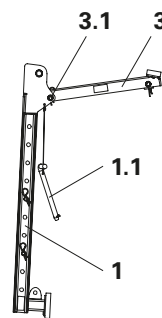
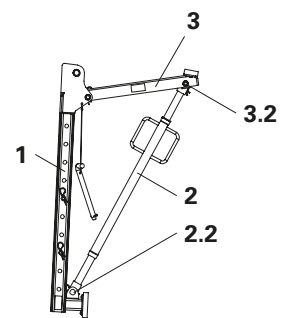
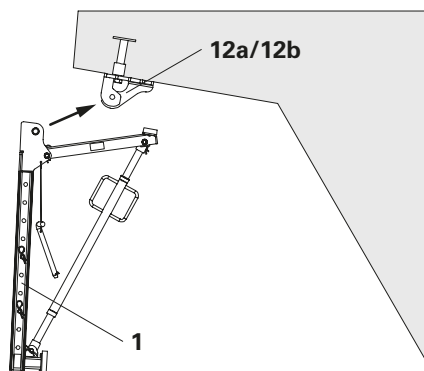
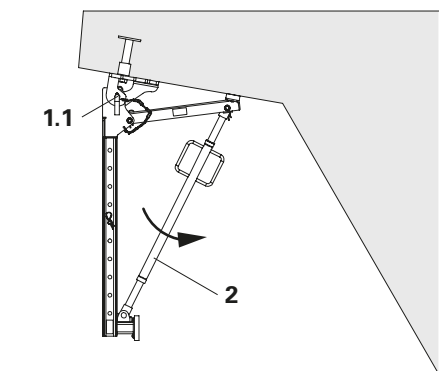

Fig. B1.04
Fig. B1.05
Fig. B1.06
Fig. B1.07
3. Fix Bracket Cantilever VGK 50 (3) to Bracket Post VGK (3.1) using bolts and cotter pins (1). (Fig. B1.04)
4. Attach pre-adjusted Kicker Brace AV (2) to Bracket Cantilever VGK 50 (3) using bolts and cotter pins (3.2).
5. Attach pre-adjusted Kicker Brace AV (2) to the Bracket Post VGK (1) using bolts and cotter pins (2.2). (Fig. B1.05)
6. Attach Bracket Unit VGK (1) to Suspension Head VGK (12) and secure by means of locking pins Ø20x260 mm (1.1) and Cotter Pins 4/1 ga.
7. Vertically align Bracket Unit VGK (1) with Kicker Brace AV (2). (Fig. B1.06 + Fig. B1.07)